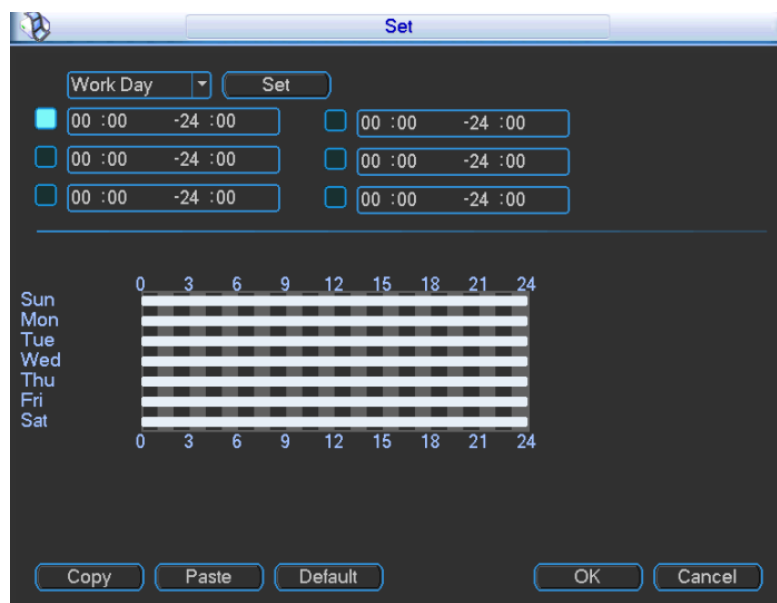

Figure 3-55
1. From the pulldown menu, select work day or free day, as shown in Figure 3-55.
3. Click “Save” to return to Figure 3-55.